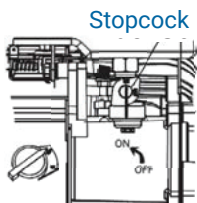
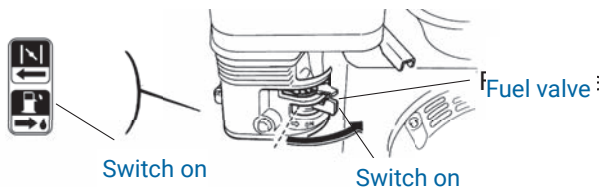

Fig.5-1a
Fig.5-1b
1) Open the fuel valve (For LGP15-A fig.5-1a; for LGP20-A-1/LGP30-A-1 fig.5-1b).